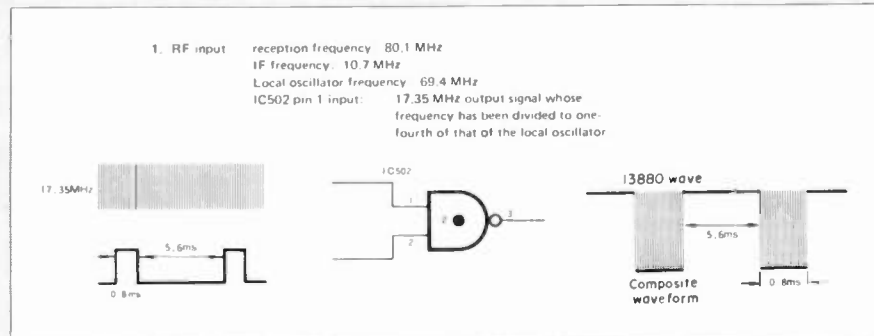

Fig. 12 Signal flow chart
The RF input signal of the local oscillator which is taken from the RF front end OSC terminal enters the RF IN terminal on the digital printed circuit board, and then enters pin 6 of IC501. The signal passes through the two pairs of high-speed flip-flops inside IC501 and its frequency is divided by 4. It is then level-converted by TR501 and sent to pin 5 of IC502. Its output from pin 6 of IC502 is then sent to pin 1 of IC502 again. The 0.8 mS pulse output signal from pin 8 of IC504 is inverted and it enters pin 2 of IC502. This means that composite waveforms such as that illustrated in Fig. 12 are available at pin 3 of IC502.
17.35MHz signal (frequency which is one-fourth of that of the local oscillator) will enter pin 1 of IC502, it will be mixed with the 0.8 ms pulse and a composite output will be obtained as in Fig. 12.